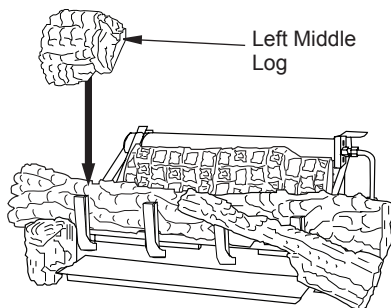

Figure 32 - Installing Left Middle Log
- The left middle log has a groove on the bottom to sit on the chassis and has to sit on the tab on the back of the left front log as shown in Figure 32.